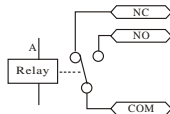

Figure 3
2.3 Electric lock interface (See Figure 3)